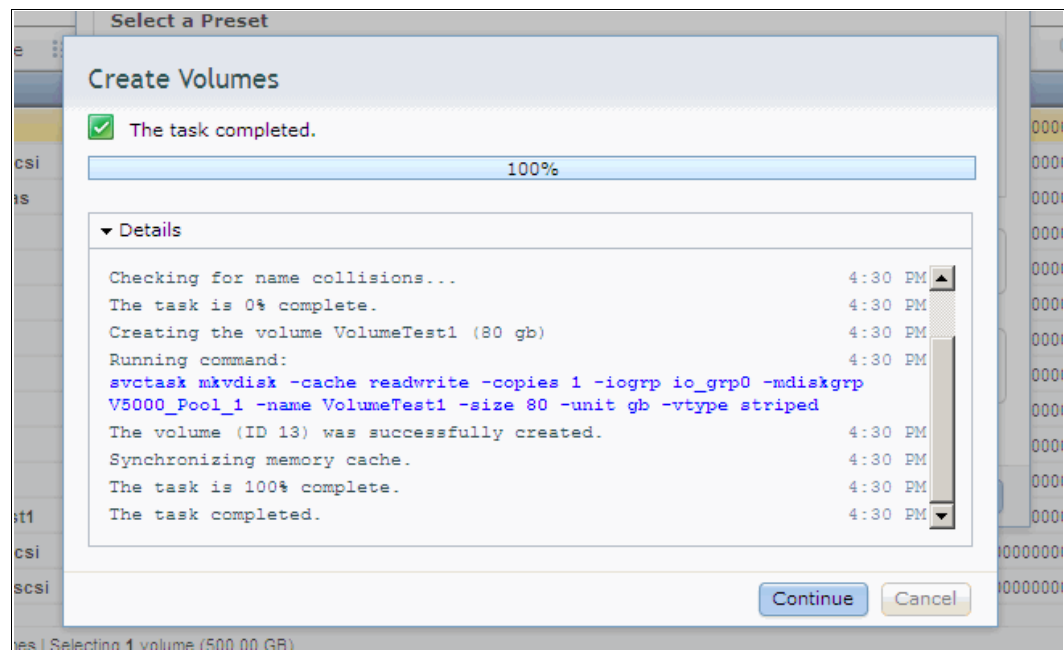

Figure 5-7 Volume creation complete
3. Enter a volume name and size. Click **Create and Map to Host** to create and map the volume to a host or click **Create** to complete the task and leave mapping the volume to a later stage. The generic volume is created, as shown in Figure 5-7.